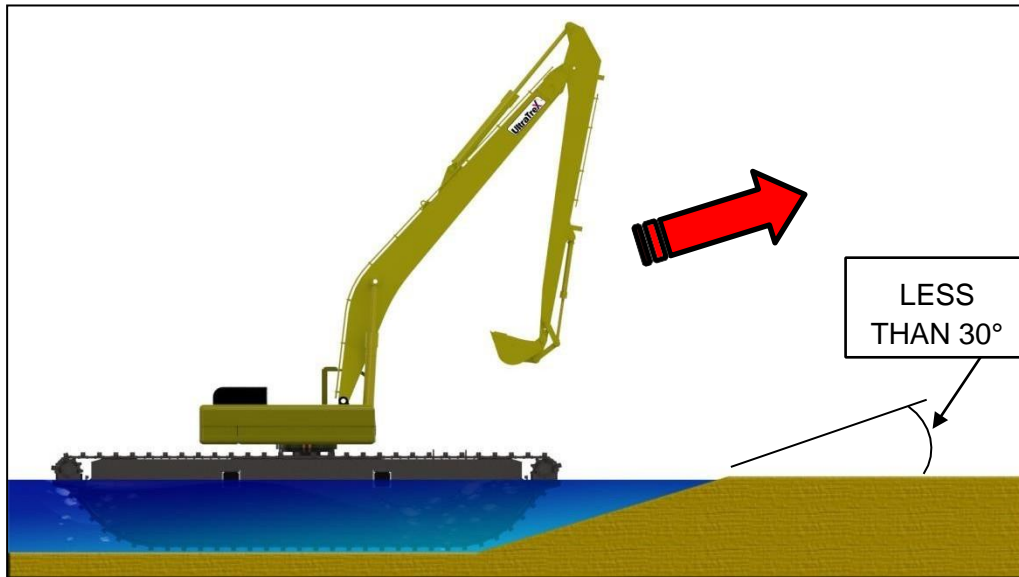

Figure 3.5: Landing the amphibious excavator
4. The boom and arm should be in the forward position as shown in Figure 3.5.